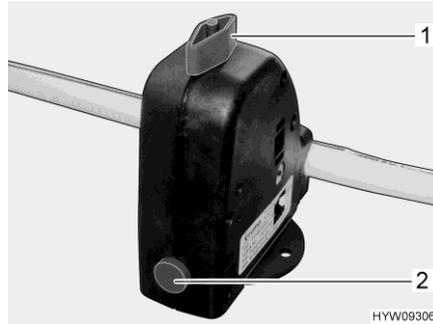

Fig. 110 Safety/drainage valve (boiler)
The boiler is equipped with a safety/drainage valve (Fig. 110). The safety/drainage valve prevents water in the boiler from freezing, when there is frost and the heater is not switched on.
- Close the safety/drainage valve. Turn the knob (Fig. 110,1) perpendicular to the safety/drainage valve and push the push button (Fig. 110,2) in.
- Open the safety/drainage valve. To do this turn the knob (Fig. 110,1) parallel to the safety/drainage valve. The push button (Fig. 110,2) jumps out. The boiler is drained to the outside by the safety/drainage valve.